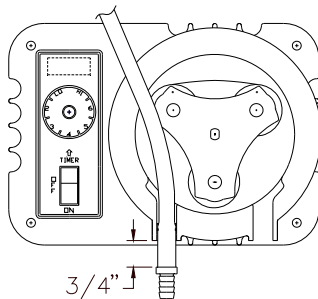

Figure 2
- 4) To install new Pinch Tube, Jog switch intermittently between OFF and CONTINUOUS positions to move Roller to position as shown in Figure 2 then switch OFF.
- 5) Lubricate Pinch Tube Assembly as noted in OPERATION section 4.1. Lay inlet end (without clamp) in inlet port on left with about $\frac{3}{4}$ " of Pinch Tube protruding from housing. See Figure 2.